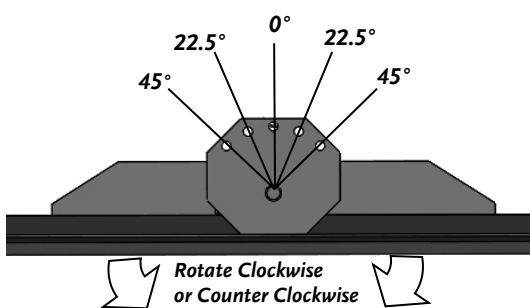

Figure 15
2. Rotate the blade to the desired working angle (**Figure 15**).